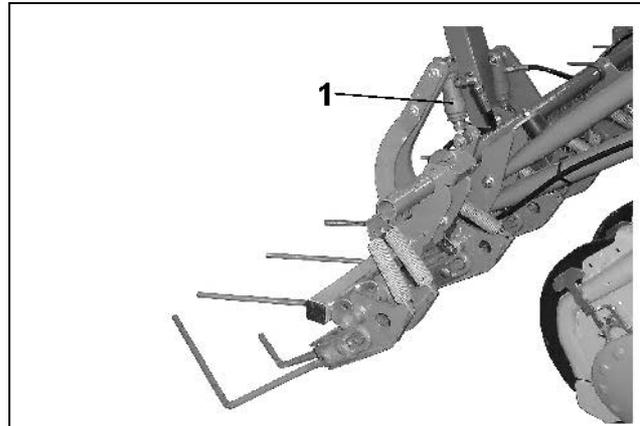
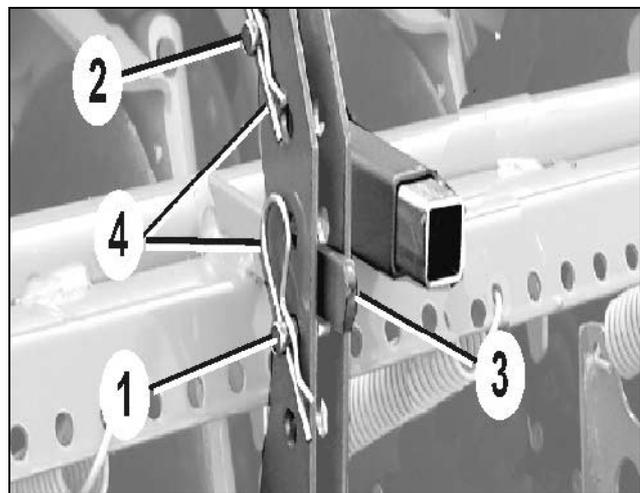

Fig. 87
Fig. 88
When changing from normal soil to heavy soil or vice versa, the coulter pressure is readjusted by a hydraulic ram (Fig. 87/1).
Two pins (Fig. 88/1 and 2) are placed as a stop for the lever (Fig. 88/3) in the setting segment. The lever, which is actuated by the hydraulic ram rests on the pin I (Fig. 87/1) when the hydraulic ram is without pressure and it stops on pin II (Fig. 88/2) when the hydraulic ram has been pressurised.
- Relieve the hydraulic ram (Fig. 87/1) from pressure.
- Insert pin II (Fig. 88/2) into a hole above the lever (Fig. 88/3) in the setting segment and secure by using a clip pin (Fig. 88/4).
- Pressurise hydraulic ram (Fig. 87/1).
- Insert pin I (Fig. 88/1) into a hole in the setting segment under the lever (Fig. 88/3) and secure by using a clip pin (Fig. 88/4).